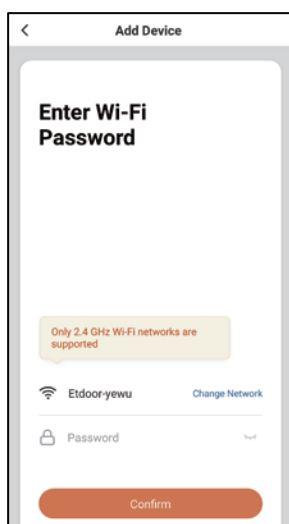
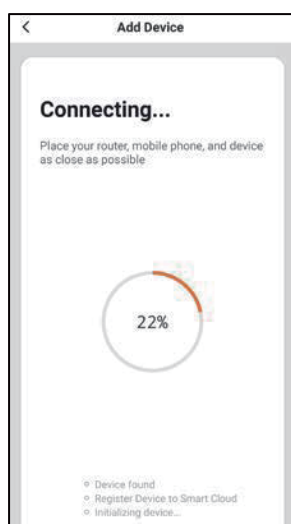

FIG.15
FIG.16
6. Click the “Confirm” button (see FIG 15) in the app. The opener will then connect to your network (see FIG 16).